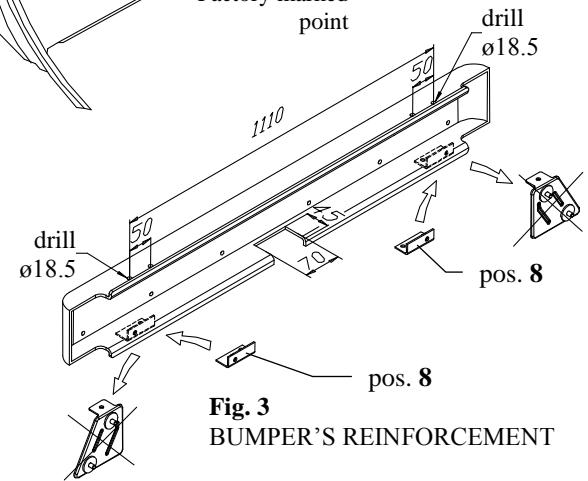

Fig. 3
2. From reinforcement disassemble handles (not used any more), see fig. 3.
3. In bottom part of reinforcement (in axis) saw out fragment dimension 70x45mm – in this place will be ball brackets of the towbar (see fig. 3).
4. In upper part of the reinforcement drill holes using bit ø18,5mm (see fig. 3) to get dimension 1110mm. Fix angle with nut (pos. 8) see fig. 3. Use original bolts M10.